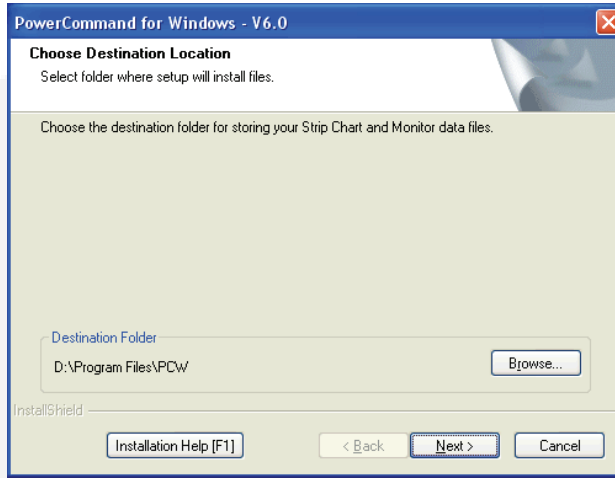

FIGURE 2-5. INSTALL – DESTINATION FOLDER
6. At the *Choose Destination Location* window, accept the destination folder (recommended). Click on the **Next** button to proceed. Figure 2-5.